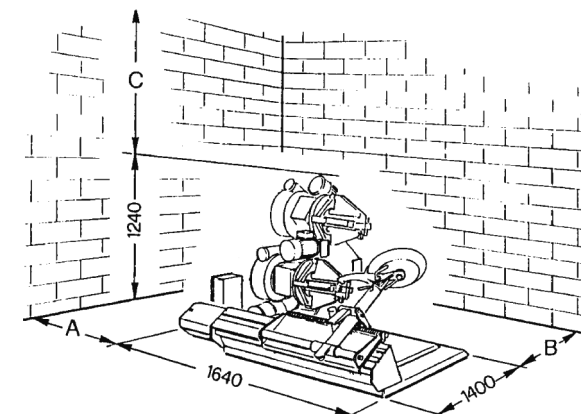

fig.16
COLLOCAMENTO (fig.16)DIMENSIONI D'INGOMBRO:
Ved. Fig. 16 dimensioni A - B - C
LOCATION (fig.16)OVERALL DIMENSIONS:
See Fig. 16 dimensions A - B - C
PLACEMENT (fig.16)
V. Fig. 16 dimensions A - B - C
AUFSTELLEN (Abb.16)
Siehe Abb. 16, Außenmaße A - B - C
COLOCACION (fig.16)
Véase Fig. 16 dimensiones A - B - C